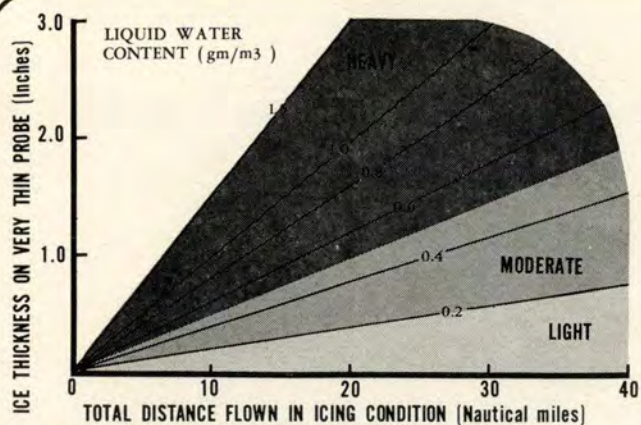

FIG. 1 ICE ACCRETION ON A SMALL PROBE IN LIGHT, MODERATE AND SEVERE ICING CONDITIONS.
The geometric pattern and physical properties of ice formations depend upon four main variables: (1) Content of liquid water in the cloud, (2) Size of the water droplets, (3) Ambient temperature, and (4) Size of the collecting body or surface. However, a very good mathematical model of icing is illustrated in Figure 1 for a small probe exposed to an icing environment (assuming 100 per cent collection efficiency, holding some variables constant). For this model, it is assumed that none of the ice ever breaks off.